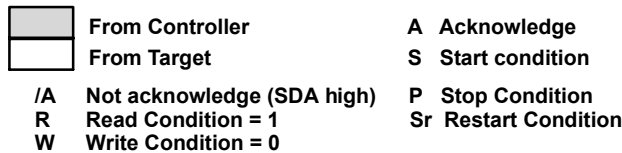

图 6-8. I²C Read Cycle
The transmitting device must not drive the SDA signal during the acknowledge cycle so that the receiving device may drive the SDA signal low. The controller indicates a not acknowledge condition ($\bar{A}$) by keeping the SDA signal high just before it asserts the stop condition (P). This sequence terminates a read cycle as shown in 图 6-8.